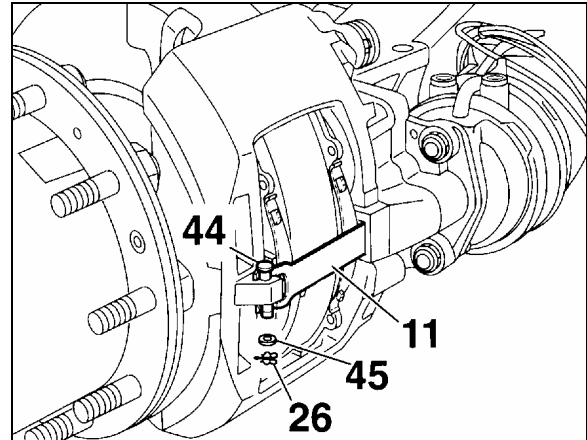

FIGURE 24: CLEARANCE INSPECTION
Remove clip and washer (26 & 45, Fig. 24), push down retainer bar (11), pull out pin (44) and remove retainer bar. Push caliper toward actuator (center of vehicle) for maximum clearance.